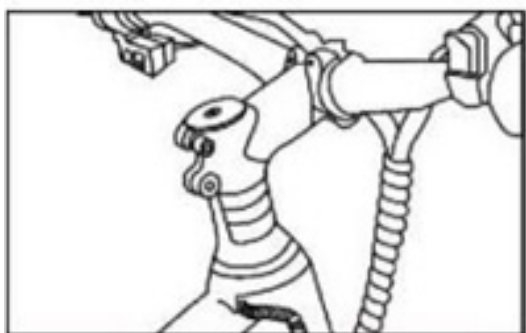

Fig. 1
Now you have to mount the handlebar and then readjust the steering head bearing. First loosen the four bolts of the stem (Fig. 1).
**ADJUSTING THE TILT OF THE HANDLEBAR:** First loosen the clamping spindle screws of the handlebar sleeve (Fig. 1) with the appropriate hexagon socket spanner. Adjust the angle of inclination of the handlebar by turning the handlebar forwards or backwards around its own axis by hand. Tighten the clamping spindle screws again.